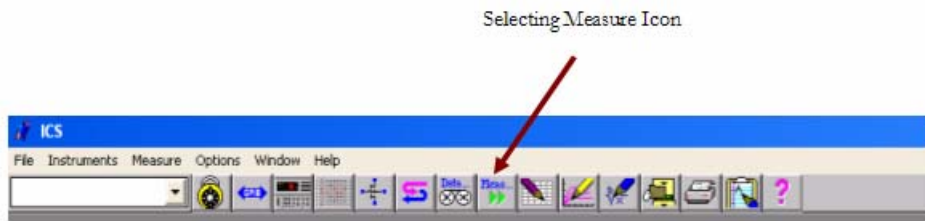

Figure 29: Selecting Measure icon from ICS Window
2. Click on the Measure icon, shown in Figure 29. The Measure window should pop-up. Make sure GM is also selected in the Measure window, then click on Single to plot GM graph.